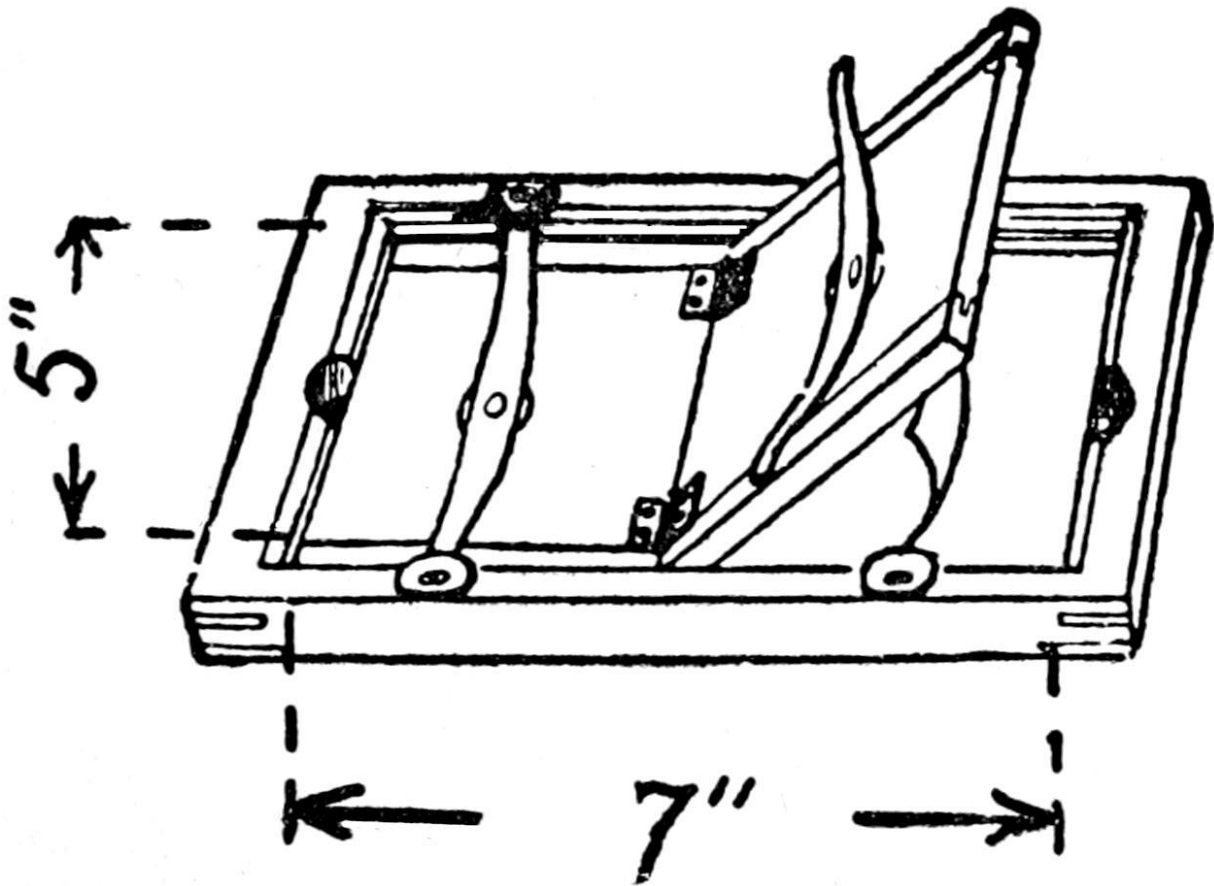

FIG. 55. A PHOTO PRINTING FRAME
The Materials Required.—Buy, or you can make, (1) a 5 × 7 *printing frame* as shown in Fig. 55 and get a sheet of clear glass to fit it, and (2) a couple of dozen sheets of 5 × 7 *blue-paper*^[43] which you can buy at any photographic supply house.